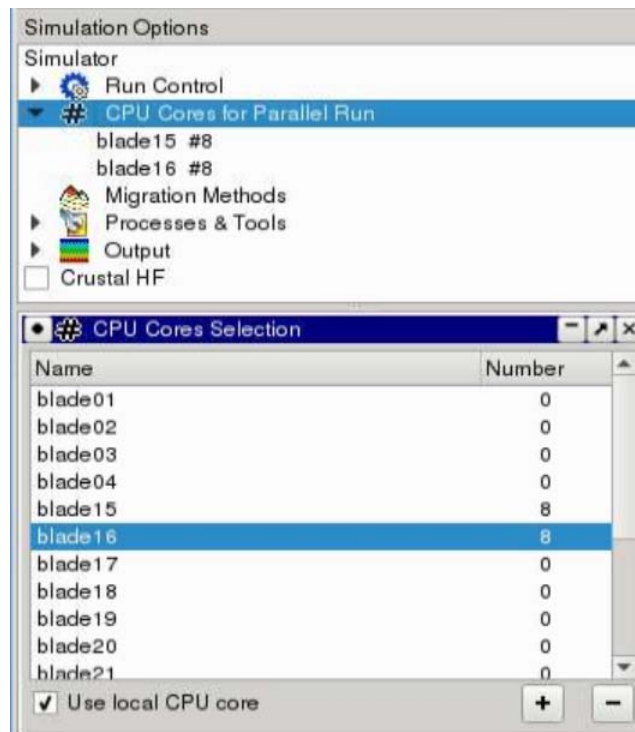

Fig. 5-9 Activating parallel processing in the PetroMod Simulation Interface
- 1 After the licenses have been activated open the **PetroMod Simulation Interface** and select the number of processors on the different nodes (Fig. 5-9).